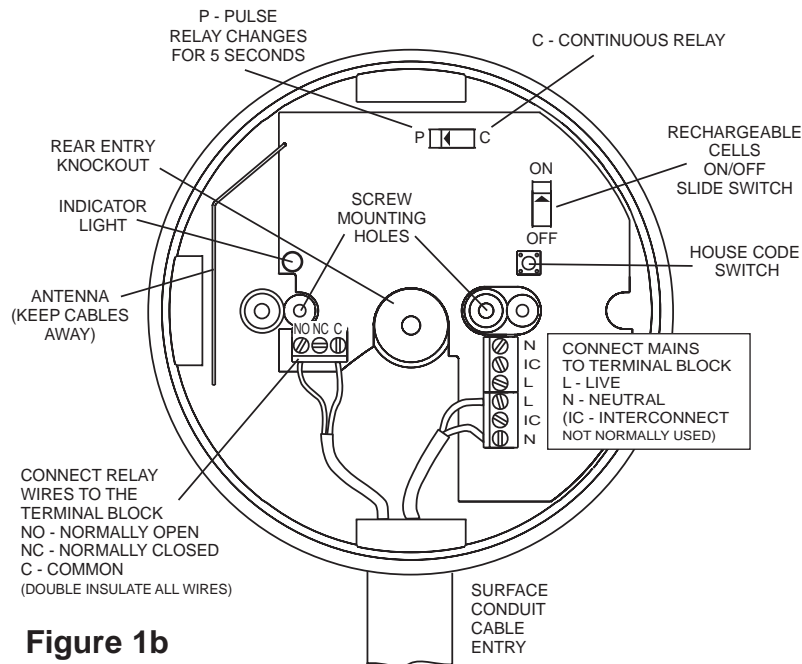

Figure 1b
The Ei428 RadioLINK Relay Module is powered by the 230VAC mains and has rechargeable back-up cells. As supplied the relay operates continuously (i.e. it switches when one of the smoke / heat alarms detects fire and switches back when the smoke clears). When the slide switch is moved to the pulse 'P' position (see figure 1b) the relay will switch when fire is detected but will automatically switch back after 5 seconds. This is commonly used with warden call systems where only momentary short circuit signalling is required.
from the knockout, making sure that there is no gap when mated with ducting/conduit. There is one suitable knockout (the other two surface entries are not recommended as the wiring will reduce the antenna signal). See figure 1b.
4. Screw the Ei428 module to the wall after first removing the required knockout and bringing the house wires through it (see figure 1b).
5. Connect the house wires (L-Live, N-Neutral) to the terminal block as shown in figure 1b (Note the interconnect can be hard wired to a non radio link Ei mains powered smoke alarm (Ei141, 144, 146, 151TL, 154TL, 156TLH, 161, 161R, 164, 166, 166R) to switch the relay, if required). NB: The unit must not be earthed so do not connect a green / yellow or copper earth wire to any terminal.
If momentary relay operation is required, carefully and gently slide the yellow switch to the “P” position with a small screwdriver (see figure 1b). This **must** be done before the mains power is connected or the rechargeable cells are activated.
7. Connect the rechargeable cells by carefully and gently sliding the switch to the “on” position See figure 1b.
9. Connect the mains power to the Ei428 module. Check the green light is on. If a red light flashes every 10 seconds then switch off the mains power, remove the cover and check that the battery slide switch is in the “On” position (see figure 1b). Replace the cover and turn the mains power back on. If there is still a problem the rechargeable cells may be depleted, leave the unit on mains power for 2 hours to charge and test again.
(i) Check that the green light is on and that it is not flashing red once every 10 seconds. If it is, this indicates that either the rechargeable cells in the RadioLink Relay are not connected or depleted. Disconnect the mains supply. Remove the cover and gently slide the battery slide switch (see fig 1b) into the "on" position. If the green light is still changing to flashing red every 10 seconds, leave it for 2 hours to charge and then re-check it.
If your RadioLink Relay fails to work after you have carefully read all the instructions, checked that the unit has been installed correctly, and is receiving AC power (green light on) contact Customer Assistance at the nearest address given at the end of this leaflet. If it needs to be returned for repair or replacement, open cover and turn off rechargeable cells with slide switch (see fig 1b). Put the RadioLink Relay in a padded box and send it to “Customer Assistance and Information” at the nearest address given on the unit or in this leaflet. State the nature of the fault, where the RadioLink Base was purchased and date of purchase.